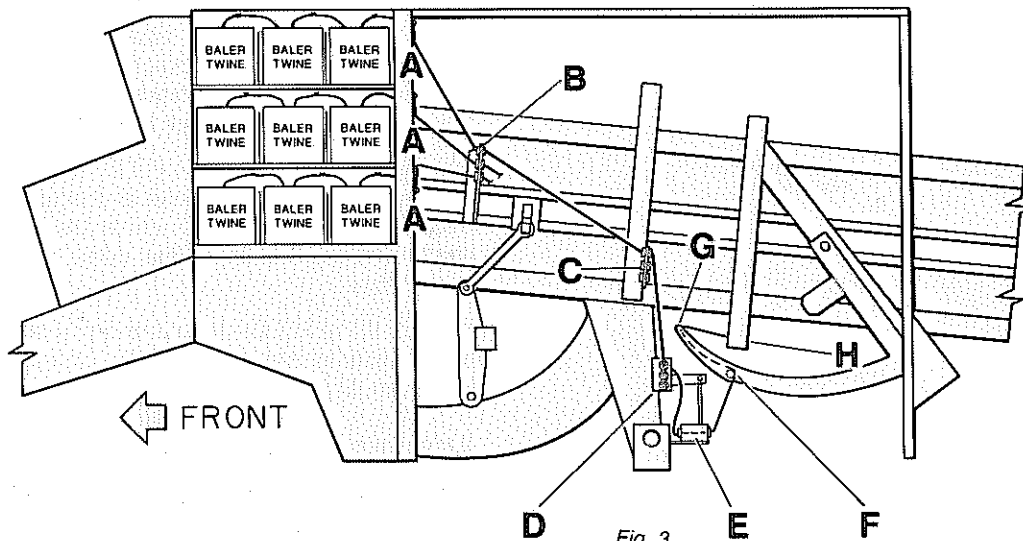

Fig. 3
2. Route twine through the three guides (located top, center, and bottom) on the rear of the twine box, see (A), **Fig. 3**.
3. Route twine through the guides near the middle of the chamber, (B); and, through the guides mounted forward of the baler tires near the bottom of the chamber, (C); then, through the guides just above the baler axle, (D); see **Fig. 3**.